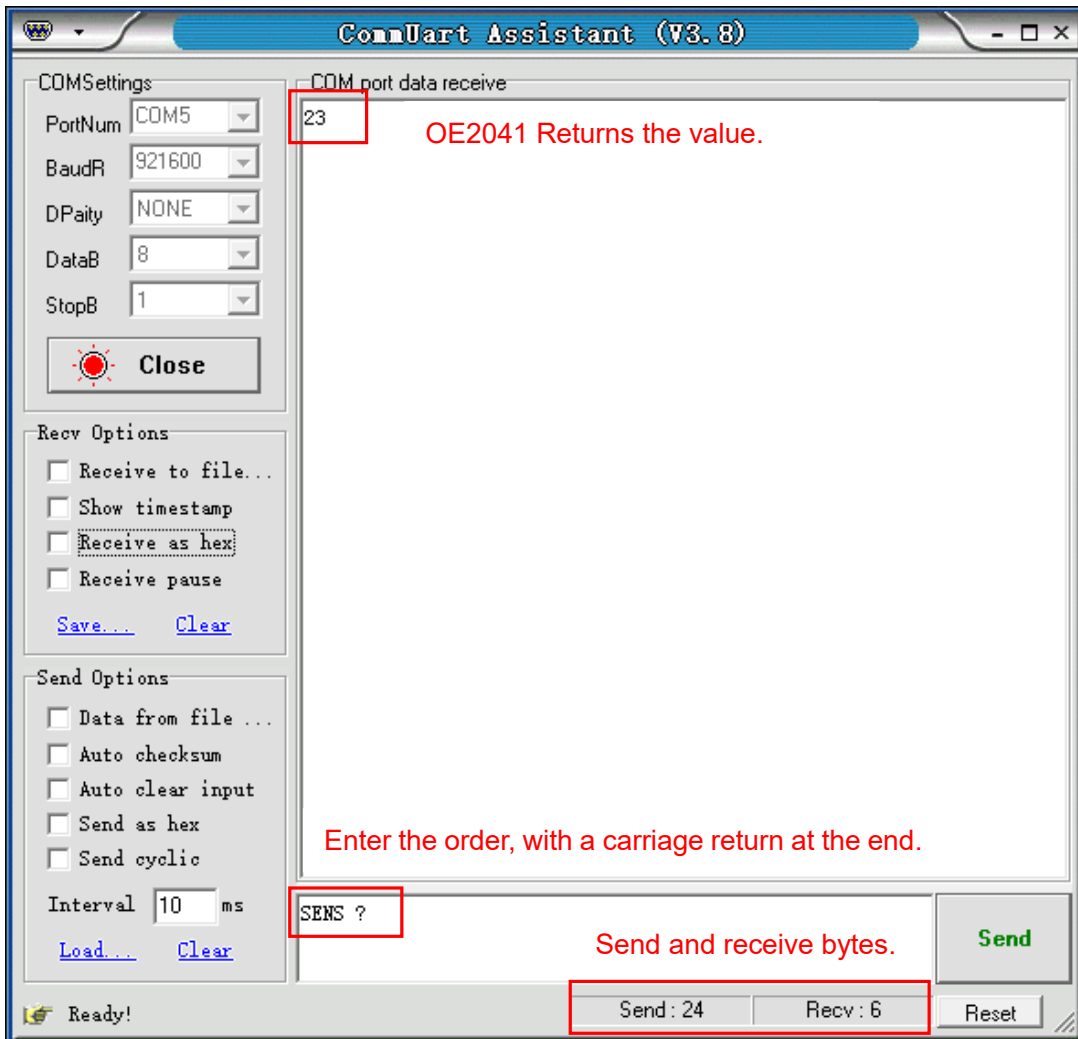
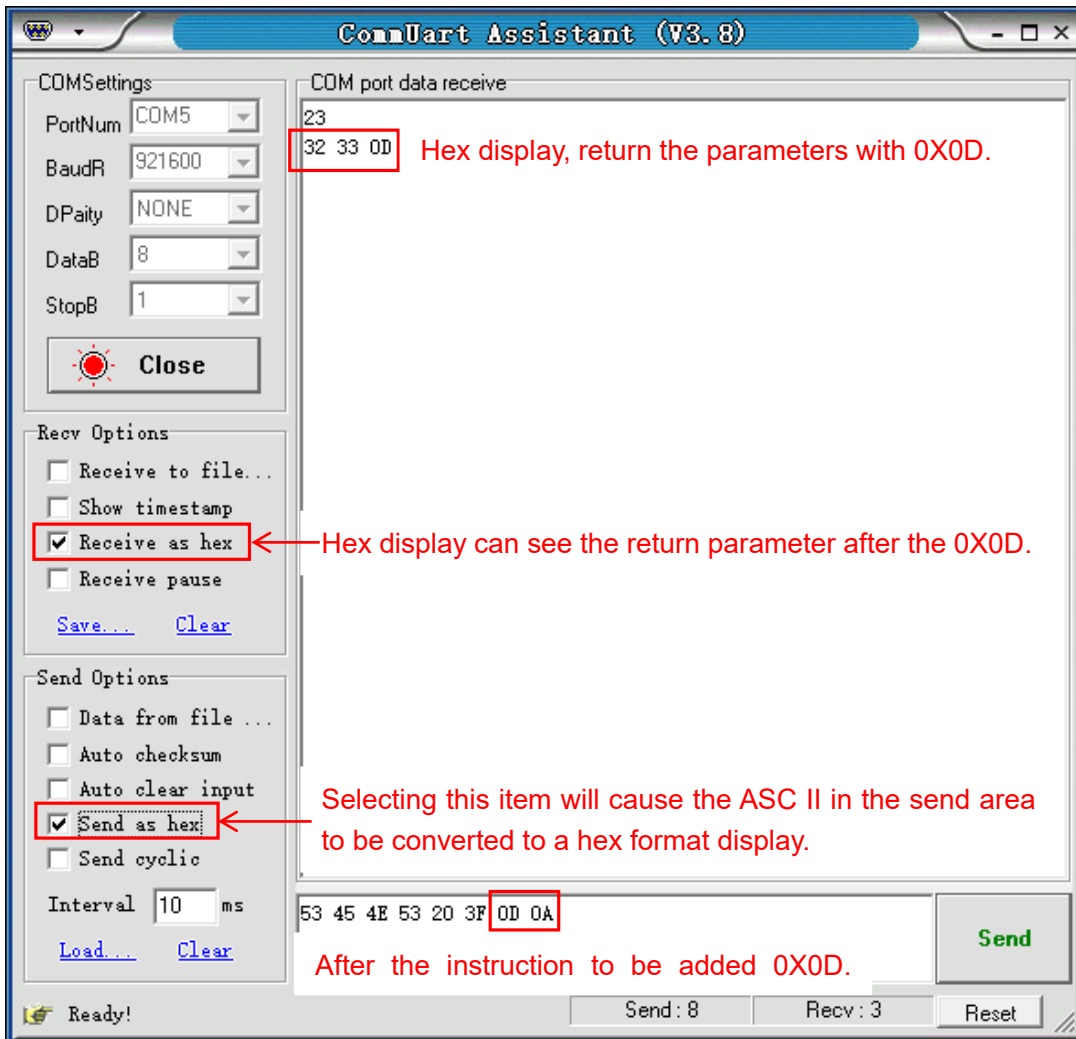

Fig.106 ASCII words send and receive instructions
Fig.107 Send and receive HEX instructions
1) The commands consist of four capital letter mnemonics and several parameters. Several commands at the same line are separated by semicolons. More details see the Chapter Remote Programming. Note that you must append a carriage return or the hexadecimal number 0D to the end of the command in order to execute the current command effectively. To send a command, first type the command in the send area, then hit the carriage return immediately afterwards, and finally click the send button, after that the command will be sent. The result is like the Fig.106 and Fig.107.